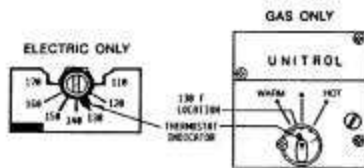

Figure 4
3. Temperature Adjustment - Figure 4